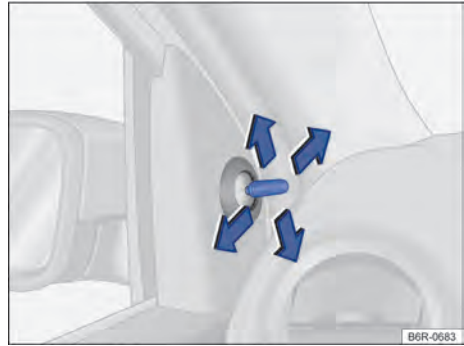

Fig. 80 On the front doors: setting button for the mechanical exterior mirrors.
- Operate the adjustment knob on the trims of the front doors → Fig. 80.